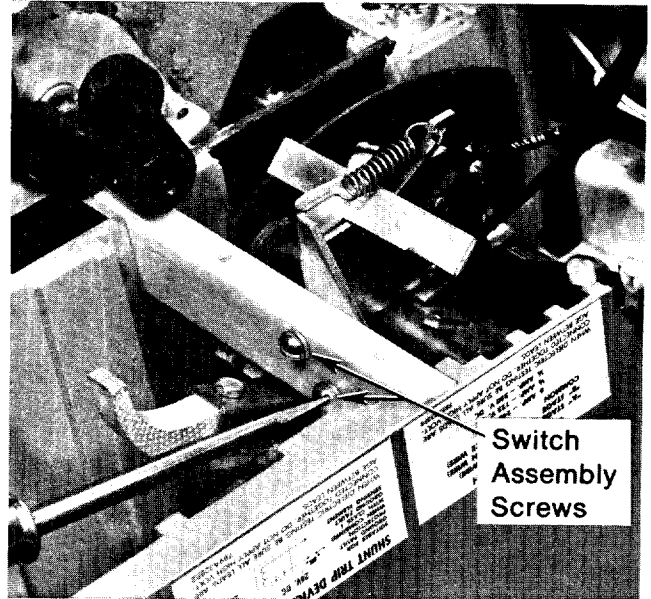

Fig. 6
- Mount cut-off switch by first depressing the switch actuator. Align tapped holes in switch bracket with holes in arm stop and secure with No. 8 x 1/16 screws and lock washers. Tighten to 23 inch pounds (Fig. 6).